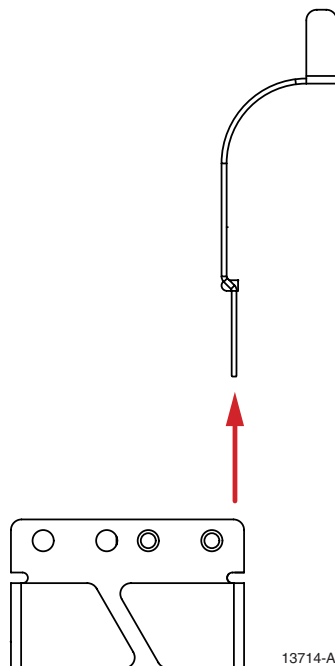

Figure 13. Removal of the Bend Radius Limiter
4. Remove bend radius limiter (Figure 13).